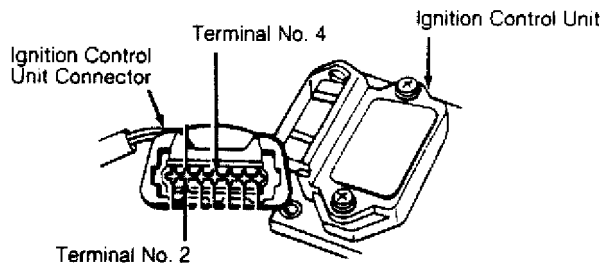

Fig. 6: Checking Hall Control Unit Voltage (Typical)
1) Perform spark test. See SPARK TEST under IGNITION CHECKS. If secondary spark is present, ignition control unit is okay. If secondary spark is not present, turn ignition off. Disconnect ignition control unit wire harness connector. Turn ignition on. Using a voltmeter, measure voltage between terminal No. 2 ( ) and terminal No. 4 (+) of connector. See Fig. 6.